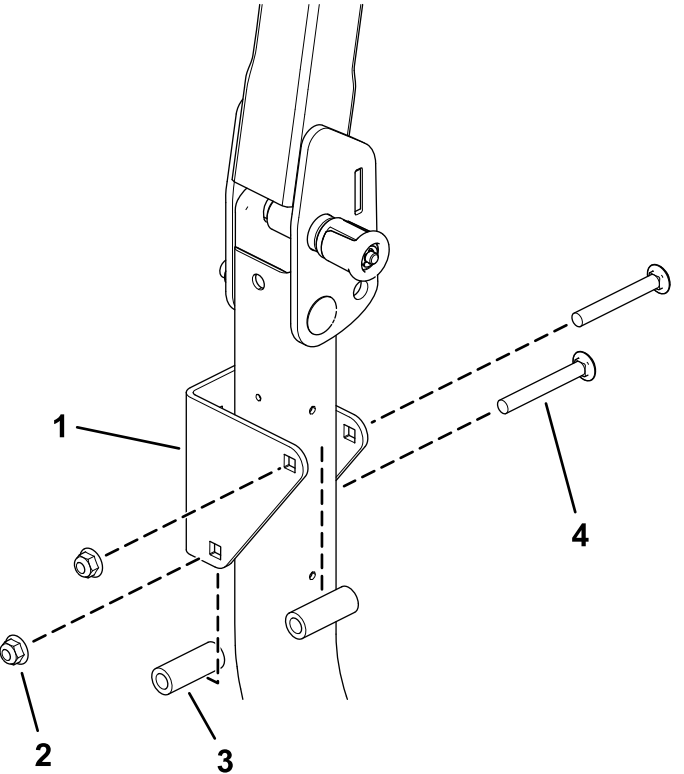

Figure 3
2. Install the support bracket to the right post of the roll bar using 2 tube spacers, 2 carriage bolts (3/8 x 3 inches), and 2 flange nuts (3/8 inch) as shown in Figure 3.